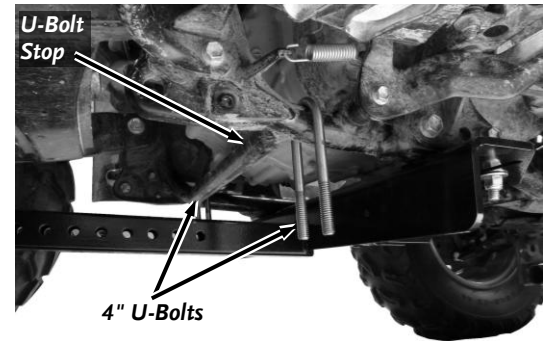

Figure 12
9. **Round Tube Frame (also some Polaris Frames):** When you have determined the best place to attach the Cross Bar to the Frame, remove the Cross Bar and place a 4" Long U-Bolt around the Frame on both sides to determine where it can rest against a stopping point on the Frame (**Figure 12**).